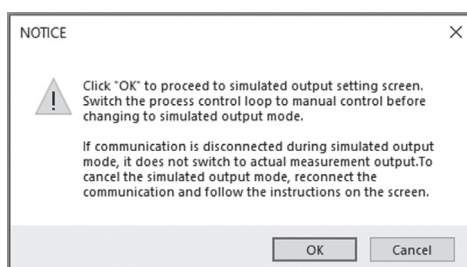

Fig.121
- ① When "Diagnosis/Service (T)" > "Loop test" > "Fix analog 1" in the menu are clicked, a message box (Figure 121) appears. Then, after confirming that the process control loop has been switched to manual, click the "OK" button.